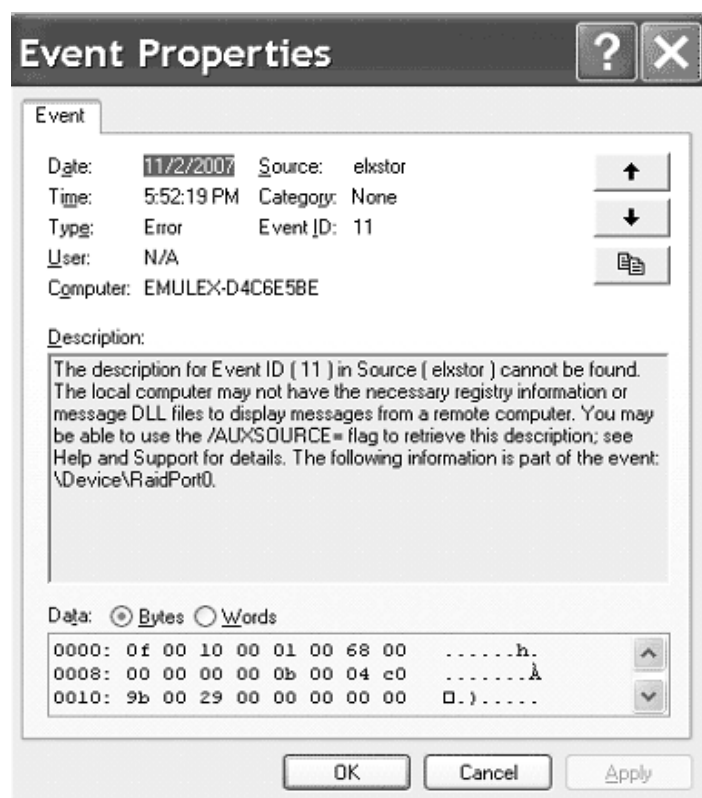

Figure 4: Event Properties
3. Examine the entry at offset 0x10 and Event ID 11. The Emulex event code is found in byte 0010 and supplementary data is in the byte offsets 0011 through 0013 (in example Figure 4, byte 0010 = 9b, byte 0011 = 00, byte 0012 = 29 and byte 0013 = 00).